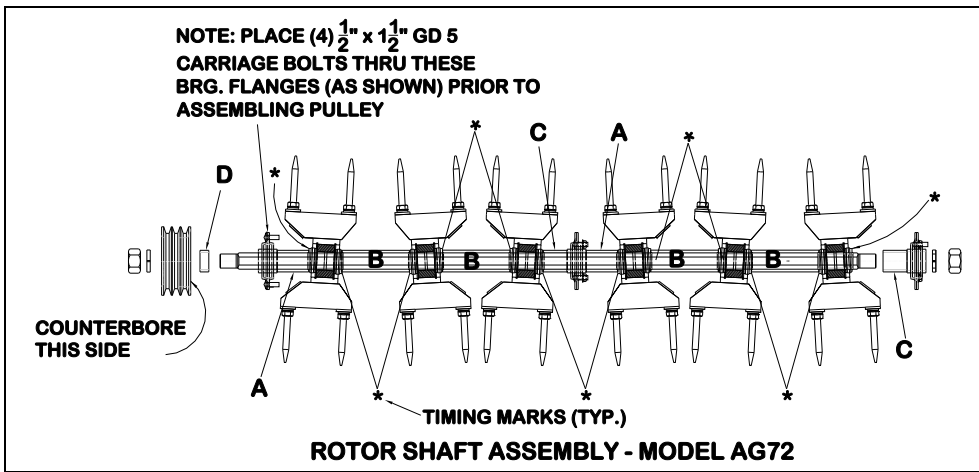

Figure 20a.
3. Install the required components in the sequence shown in Figure 20a, b, & c, double-checking the timing mark locations and spacer lengths (see following table) as each rotor is installed.